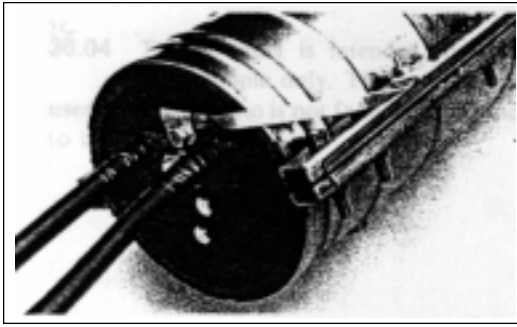

FIGURE 37 - BONDING CLAMP
21.02 Loosely bolt the bonding clamp to one of the threaded inserts in the bottom section of the End Plate where the cables were installed. Install a length of bonding ribbon (not supplied) from the bonding clamp on the LOCKBAR System to the bonding clamp on the End Plate. Securely tighten the bolt on the End Plate. (Figure 37)